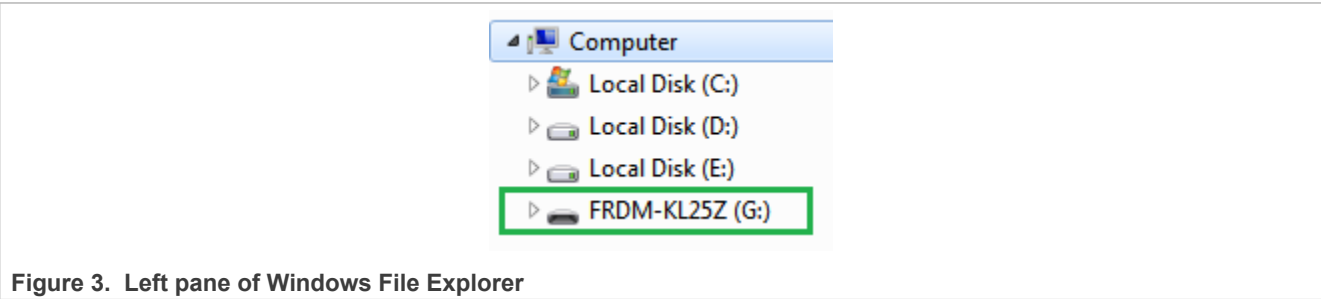

Figure 3. Left pane of Windows File Explorer
- This time without pressing the RST button, the FRDM\_KL25Z device should appear on the left pane of the Windows File Explorer as pictured in Figure 3.